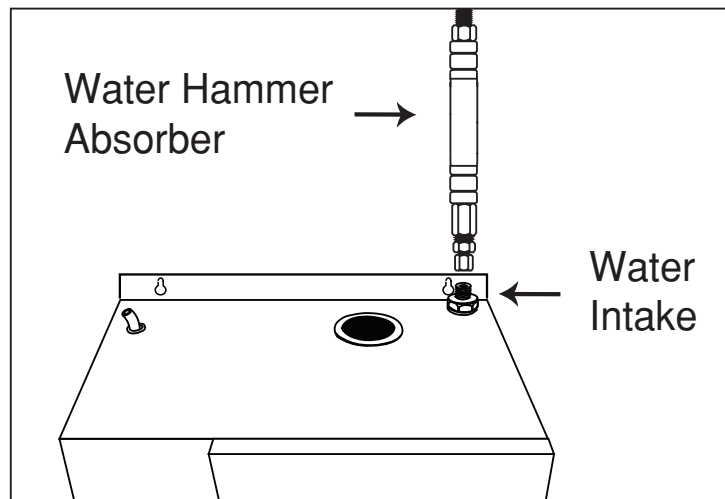

Fig. 16a
16.1 The water intake fitting on the top of the humidifier must be wrapped with teflon tape. Screw the water hammer absorber (piece of red rubber hose with two brass fittings) onto the water intake on the top of the humidifier without stripping. Please see Fig. 16a. Use the double wrench method for tightening.